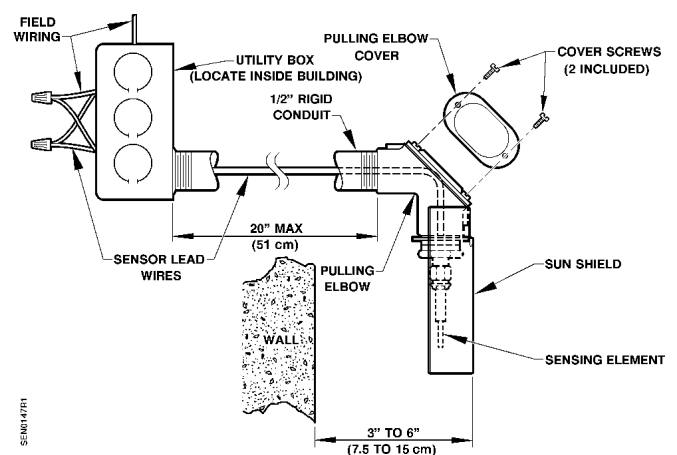

Figure 1. Outside Air Sensor, Option A Installation.
Feed the sensor leads through the rigid conduit to the utility box located on the inside of the building. Thread the sensor onto the rigid conduit as shown in Figure 1.
3. Connect the sensor leads to the field wiring inside the utility box. See Figure 1.